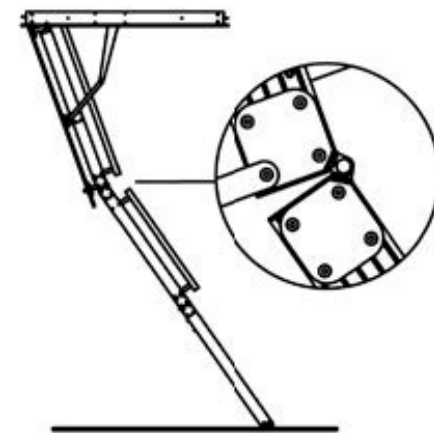

Figure 6
A. With one person in the attic and the other in the room below, pull down the door and unfold your ladder as shown in figures 6 or 7 on page 6.
E. If the attic ladder looks like Figures 6 or 7 on page 6, then it is not safe to use.
- If still having trouble, please contact Kimberley Products on either (03) 9768 5777 and ask for: Customer Service or e-mail sales@kimprod.com.au